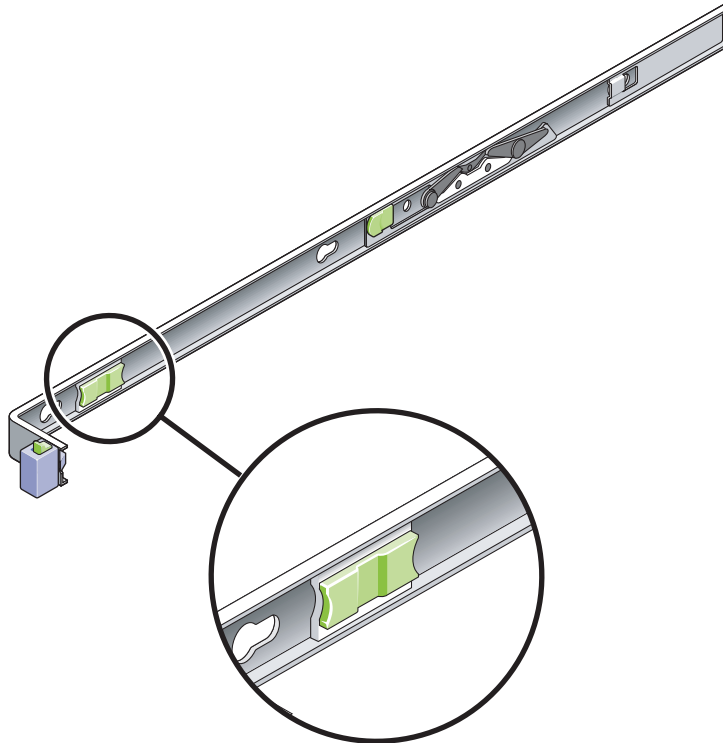

FIGURE 6-7 Release Levers
4. Release the slide rails from the fully extended position by pushing the release levers on the side of each rail (FIGURE 6-7).